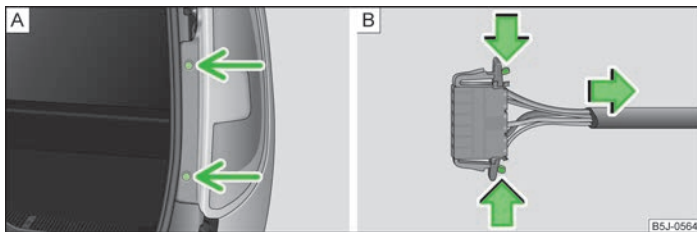

Fig. 151 Removing the tail light assembly/disconnecting the plug connection
- Unscrew the light » Fig. 151 - **A**.
- Disconnect plug connection » Fig. 151 - **B**.